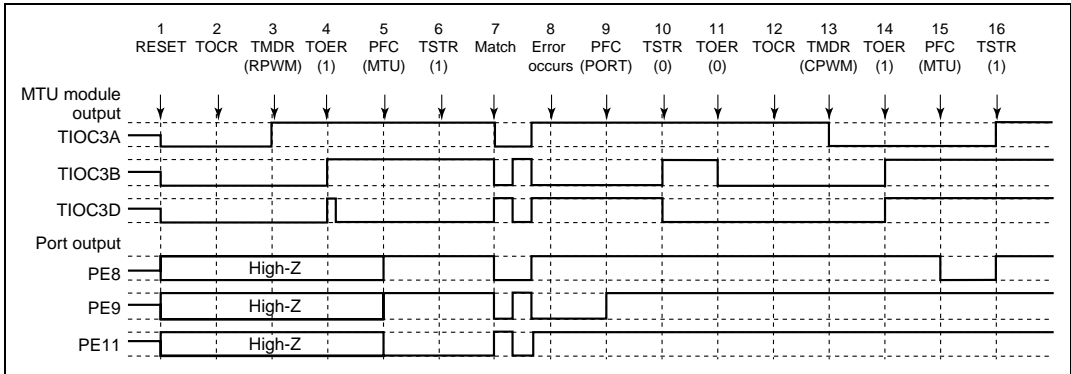

Figure 10.112 Error Occurrence in Reset-Synchronous PWM Mode, Recovery in Complementary PWM Mode
(28) Operation when Error Occurs during Reset-Synchronous PWM Mode Operation, and Operation is Restarted in Complementary PWM Mode: Figure 10.112 shows an explanatory diagram of the case where an error occurs in reset-synchronous PWM mode and operation is restarted in complementary PWM mode after re-setting.